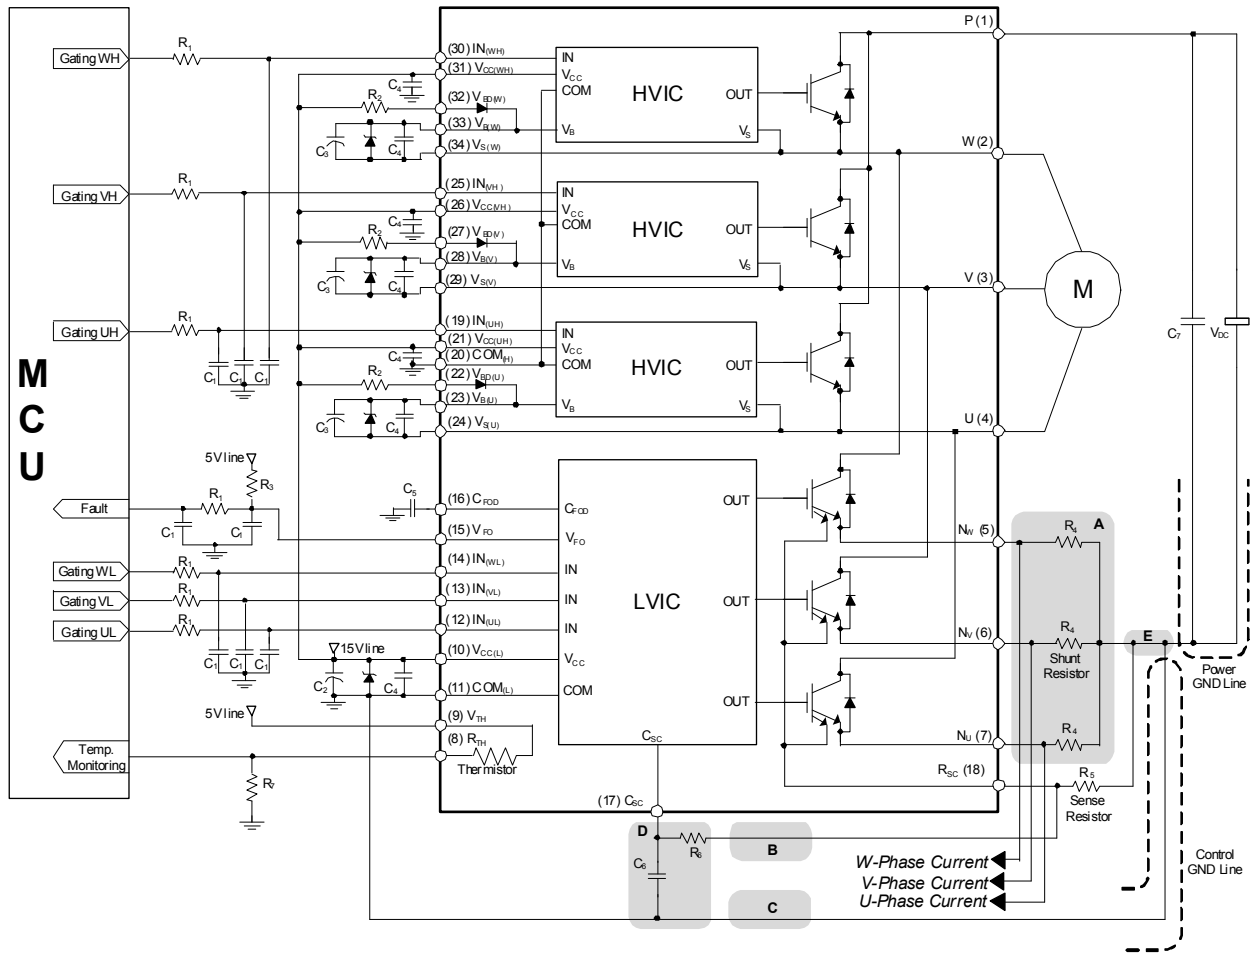

**Figure 14. Recommended MCU I/O Interface Circuit**
16.  $V_{FO}$  output is an open-drain type. This signal line should be pulled up to the positive side of the MCU or control power supply with a resistor that makes  $I_{FO}$  up to 2 mA. Please refer to Figure 14.